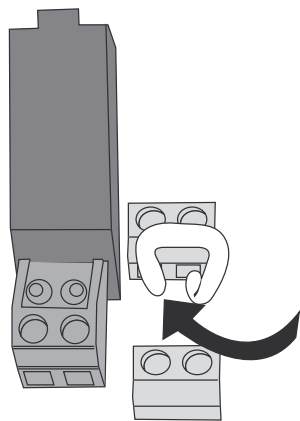

Fig. 12 Changing output 7 or 8 to pump control. Refit one of the loops.
3. Refit one of the loops as shown in Fig. 12.